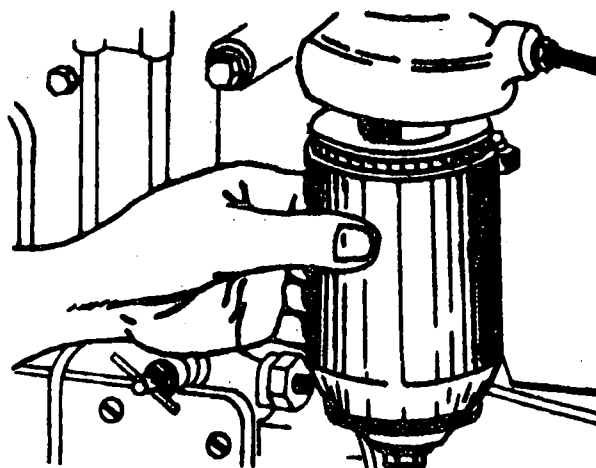

Fig. 2
- c) Loosen the securing bolt and remove the filter body (Fig. 2).